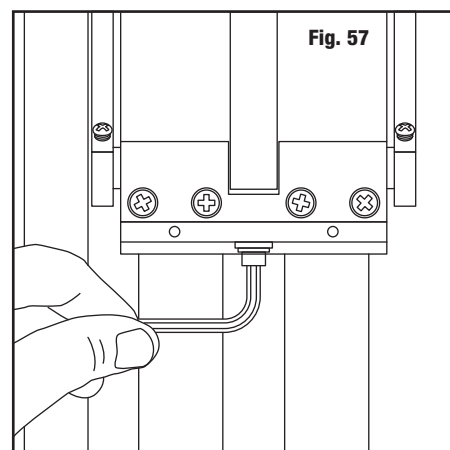

Fig. 57
2. Locate pressure adjustment screw (Fig. 57).